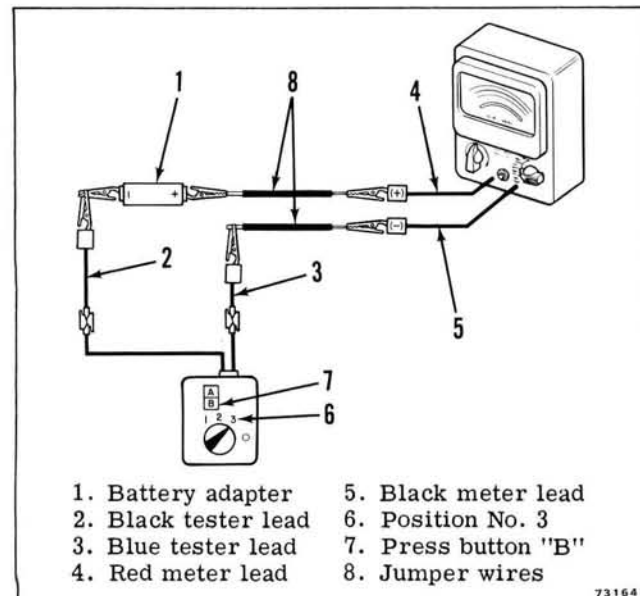

Figure 4-23. M-80 or S-80 Neon Tester
b. Model M-80 or S-80 - Connect the 1-1/2 volt battery adapter to the neon tester black lead with (-) negative end toward the neon tester, and connect the voltmeter as shown in Figure 4-23. Set switch to position 3, and press load button "B." Battery voltage should be a minimum of 2-1/2 volts.